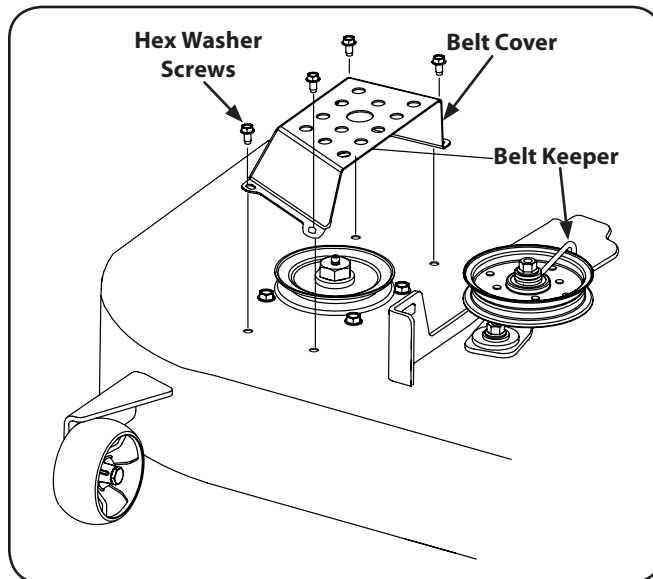

Figure 7-10
- Remove the hex washer screws securing the belt covers to the deck. See Fig. 7-10.
2. Remove the hex washer screws securing the belt covers to the deck and loosen the belt keepers enough to slide the belt off the pulleys. See Fig. 7-10.
4. Using a wrench or socket ratchet remove four hex washer screws. Remove the spindle assembly. See Fig. 7-10.